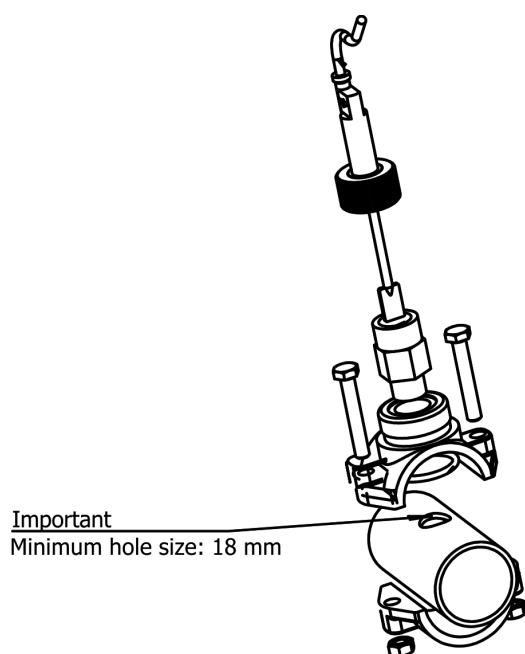

Fig. 10a
2. Install the supplied flow detector (flow switch) vertically in the saddle (Fig. 10a).